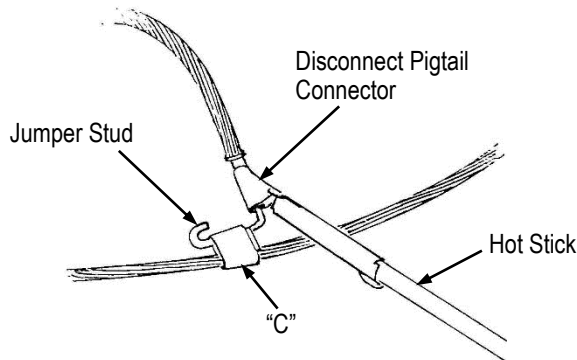

Figure 7
6. Figure 7, Illustrates optional configuration.